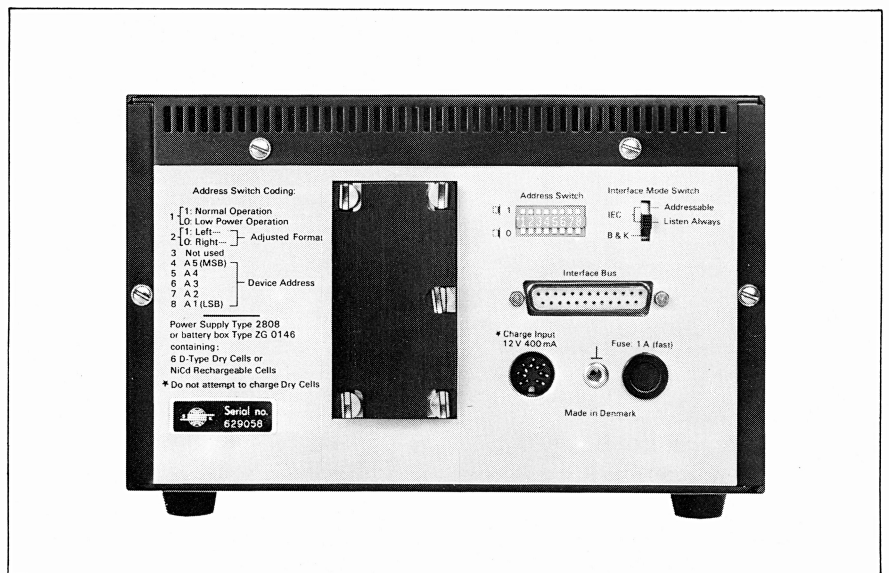

Fig.2. The rear panel of the Type 2312
1) **Addressable** mode, the Interface will operate according to the proposed IEC Interface Bus Standard, with byte-serial transfer of data controlled by three lines operating in the "three wire handshake" mode. The device can be individually addressed by an external controller connected to the Interface Bus. The address is set on a switch array on the rear panel (see Fig.2).